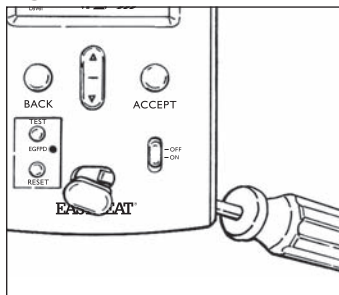

Fig. 3
- Pop out the Screw Cover by gently pushing from behind, with the enclosed screwdriver, see Figure 3.